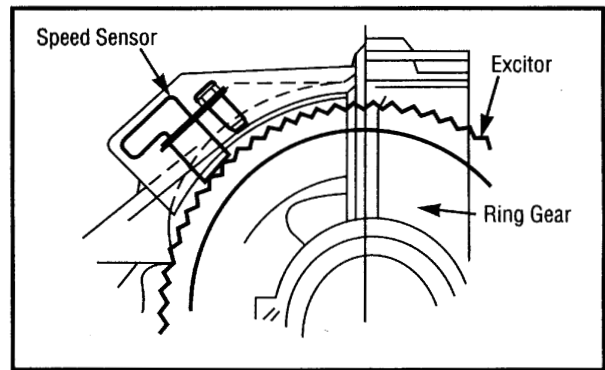

Figure 4:
2. Measure the resistance between pin 13 (white/violet speed sensor ground) and pin 14 (red/violet speed sensor signal) on the RWAL control module connection. The resistance should be less than 2400 ohms. If resistance is greater than 2400 ohms, disconnect the 2-way connector at the speed sensor located on the rear axle (see Fig. 4).